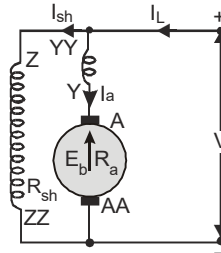

Fig. 4.59: Circuit of compound motor
- (iii) **Compound motor** : Its conventional diagram is shown in fig.4.59.